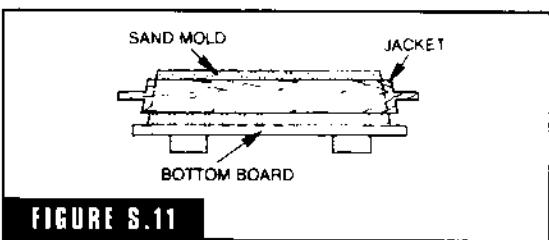

FIGURE S-11
**slip jacket** A metal or wood frame to place around a snap or slip flask mold after the flask has been removed during pouring (Fig. S-11).